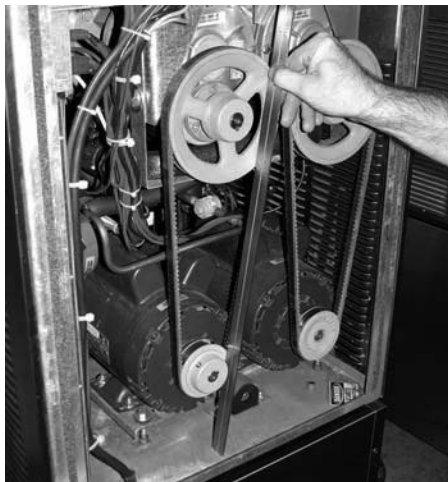

Figure 6-6 Pulley Alignment
5. Using a straightedge, align the drive motor pulley with the gearbox pulley. Tighten the two allen head screws. (Refer to Figure 6-6)